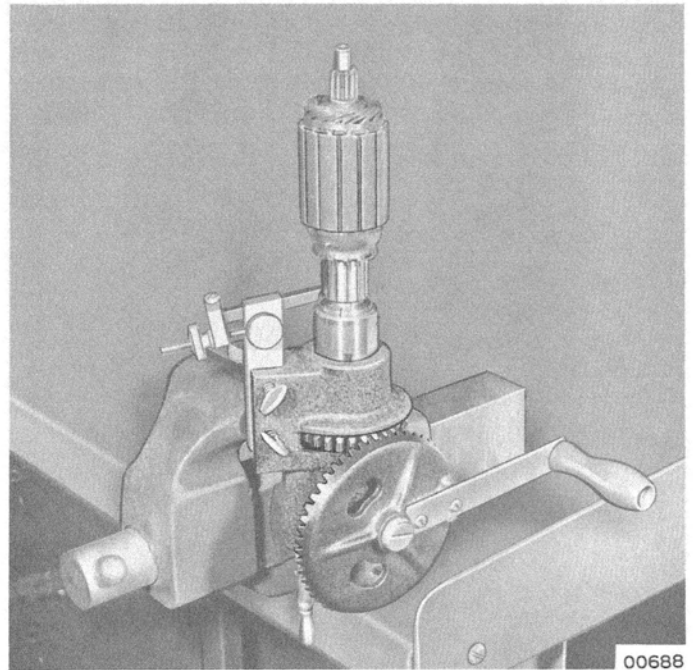

Figure 2. Resurfacing Commutator
10. Armature commutator bars can be resurfaced with a reconditioning tool, if worn excessively, or cleaned with No. 00 sandpaper. (Figure 2).